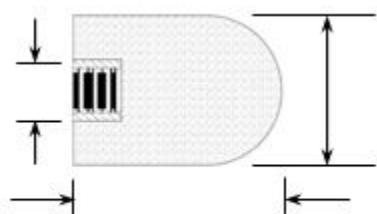

Figure 101C *Type 18 Plug Wheel*
- Type 18 plug wheels are cylindrical in shape with either a square or curved grinding end. Plug type wheels are mounted by being screwed onto a threaded machine spindle so that mounting surface end seats firmly against an unrelieved, flat back-up flange. (See Figure 101C)